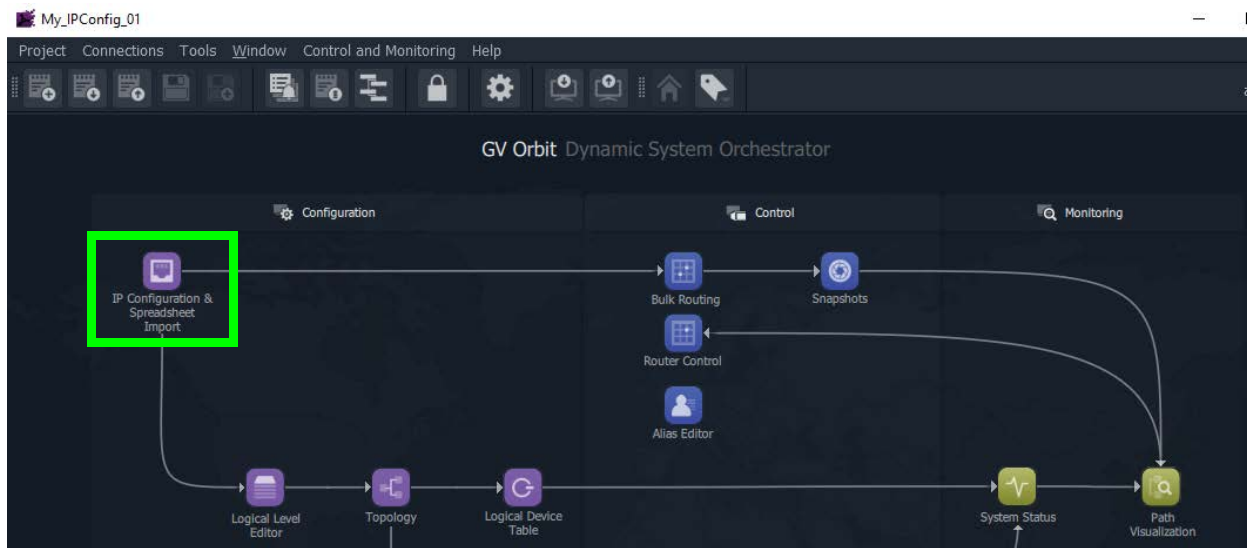

Fig. 18-5: IP Configuration and Spreadsheet Import Icon in the Routing Workflow Screen
- 2 Click on the 'IP Configuration and Spreadsheet Import' icon. See Figure 18-5.